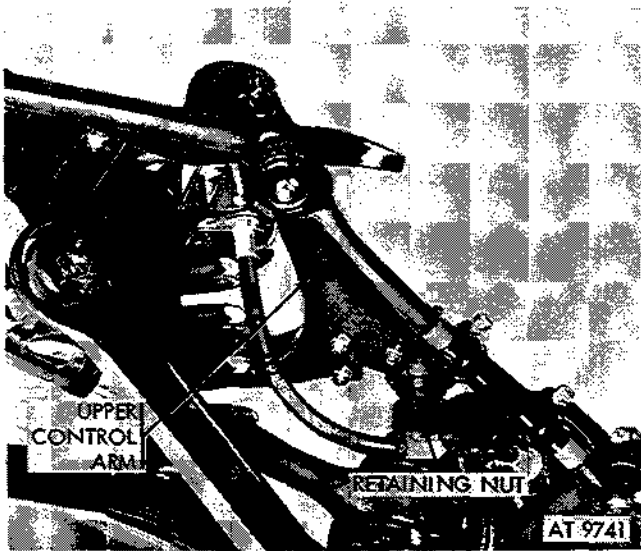

Figure 2-315. Remove retaining nuts and bolts from upper control arm.
- (4) Remove three ball joint retaining nuts and bolts from upper control arm (fig. 2-315).